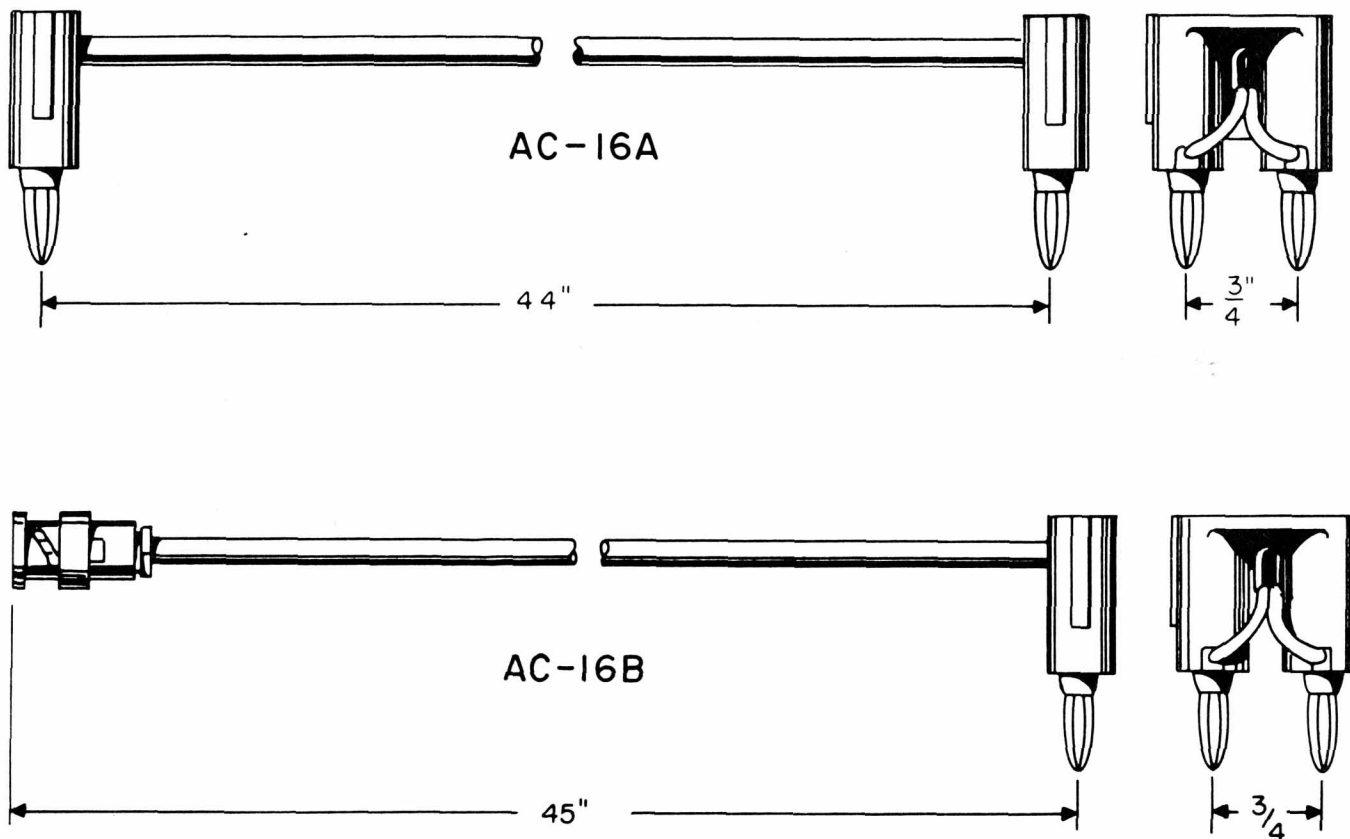

Figure 1-2. Accessory Cable Assemblies
a. -hp- Model AC-16A Cable Assembly. Equipped with two dual banana plugs having  $\frac{3}{4}$  inch centers. Made from 50 ohm coaxial cable type RG-58/U. (See Figure 1-2.)
b. -hp- Model AC-16B Cable Assembly. Same as AC-16A except one dual banana plug is replaced by a UG-88/U type BNC male connector. (See figure 1-2.)